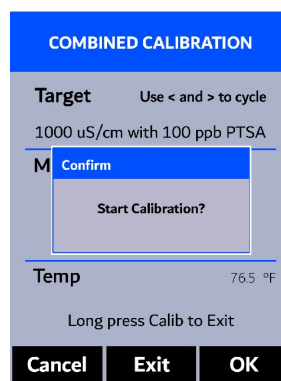

Figure 17.
6. The display updates as shown in Figure 17 and the user can choose one of three options: